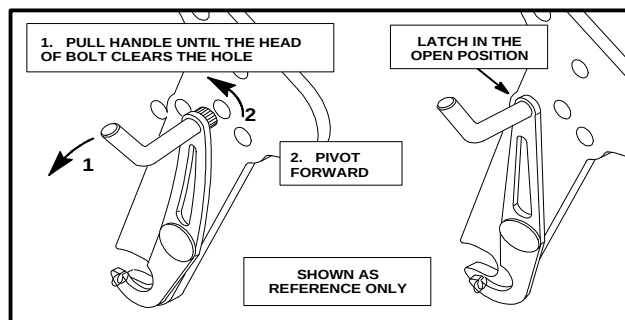

Figure 6
3. Before mounting the cutting heads, make sure the latches on the pull frames are in the opened position (See Fig. 6).